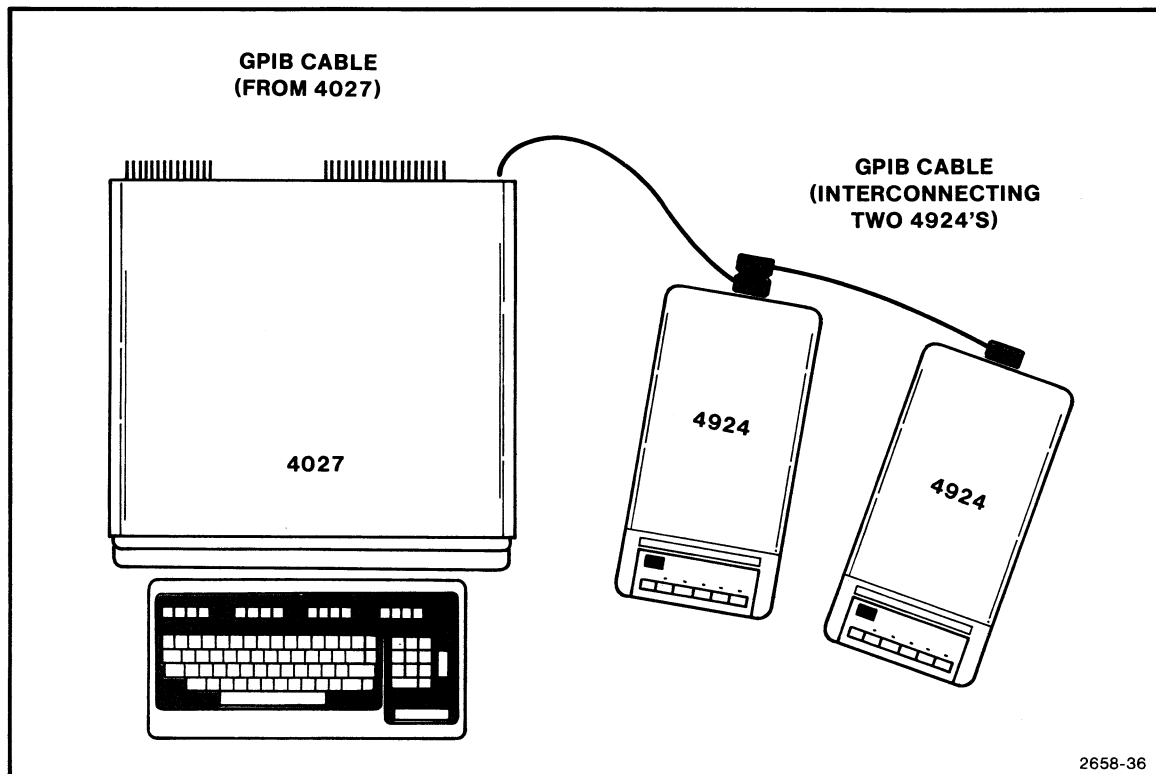

Figure 9-6. GPIB Interconnections.
1. Connect the special GPIB cable coming from the rear of the 4027 to the GPIB connector on the rear of the 4924, as shown in Figure 9-6. If this cable is already connected to another tape drive or plotter, use another GPIB cable, stacking one end of that cable on the other cable's connector. Up to four tape drives and two plotters may be connected in this way.